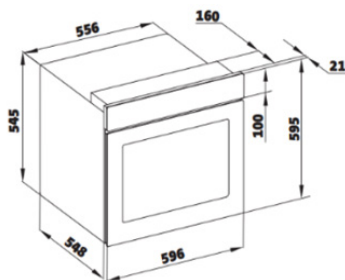

Figure 4
- The dimensions of the appliance are given in figure 4. The furniture surfaces to be installed and the installation materials to be used shall resist a temperature of at least 100 °C.